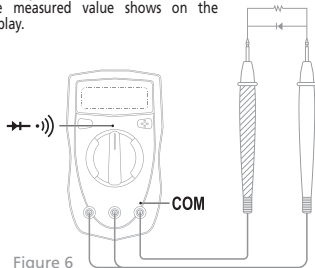

Figure 6
- The test leads can add 0.1 Ω to 0.3 Ω of error to resistance measurement. To obtain precision readings in low-resistance measurement, that is the range of 200 Ω , short-circuit the input terminals beforehand and record the reading obtained (called this reading as X). (X) is the additional resistance from the test lead. Then use the equation: measured resistance value (Y) - (X) = precision readings of resistance.
F. Diode and Continuity Test (Figure 6)